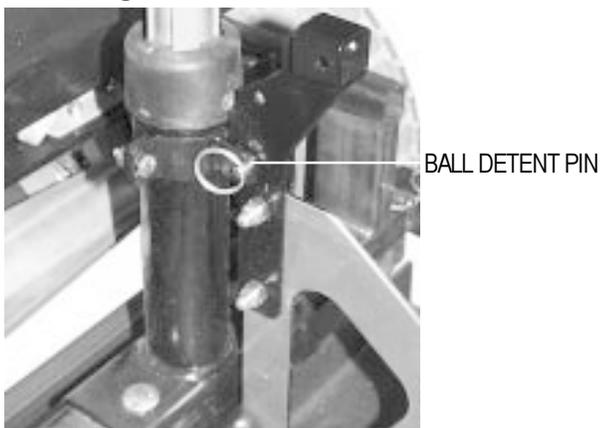

FIGURE 25. DOCKING DEVICE BALL DETENT PIN
10. Remove the docking device ball detent pin. See figure 25.